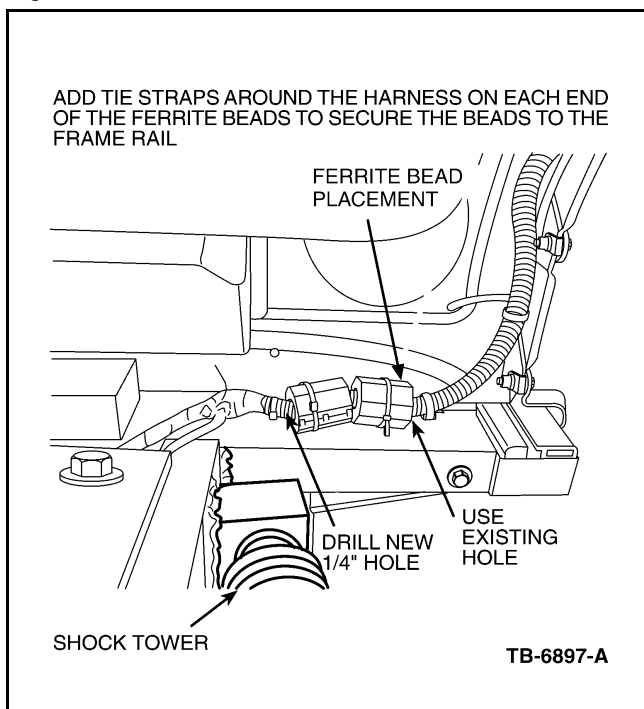

Figure 5 - Article 03-2-1
17. Drill a new 1/4 inch hole on the cross member and use other existing hole for Ferrite bead mounting, refer to Figure 5.